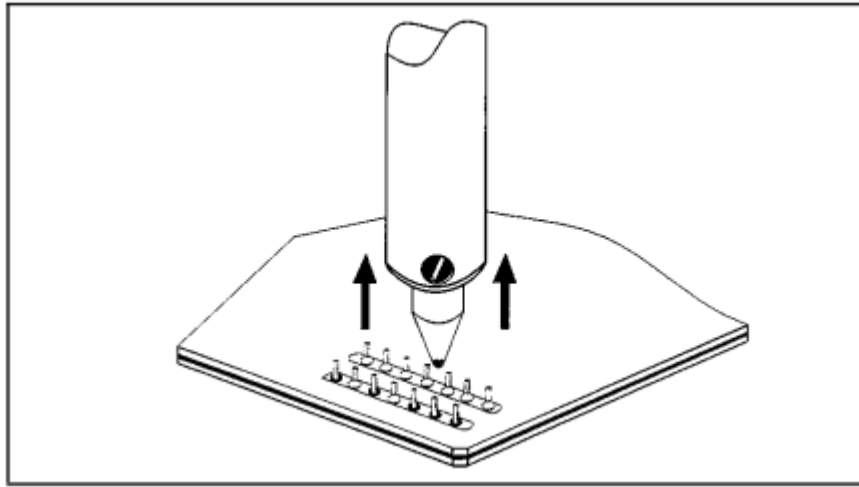

Figure 6 Lift Handpiece
13. Lift tip from lead, hold vacuum for an additional 3 seconds to clear all molten solder from heater chamber. (See Figure 6.)